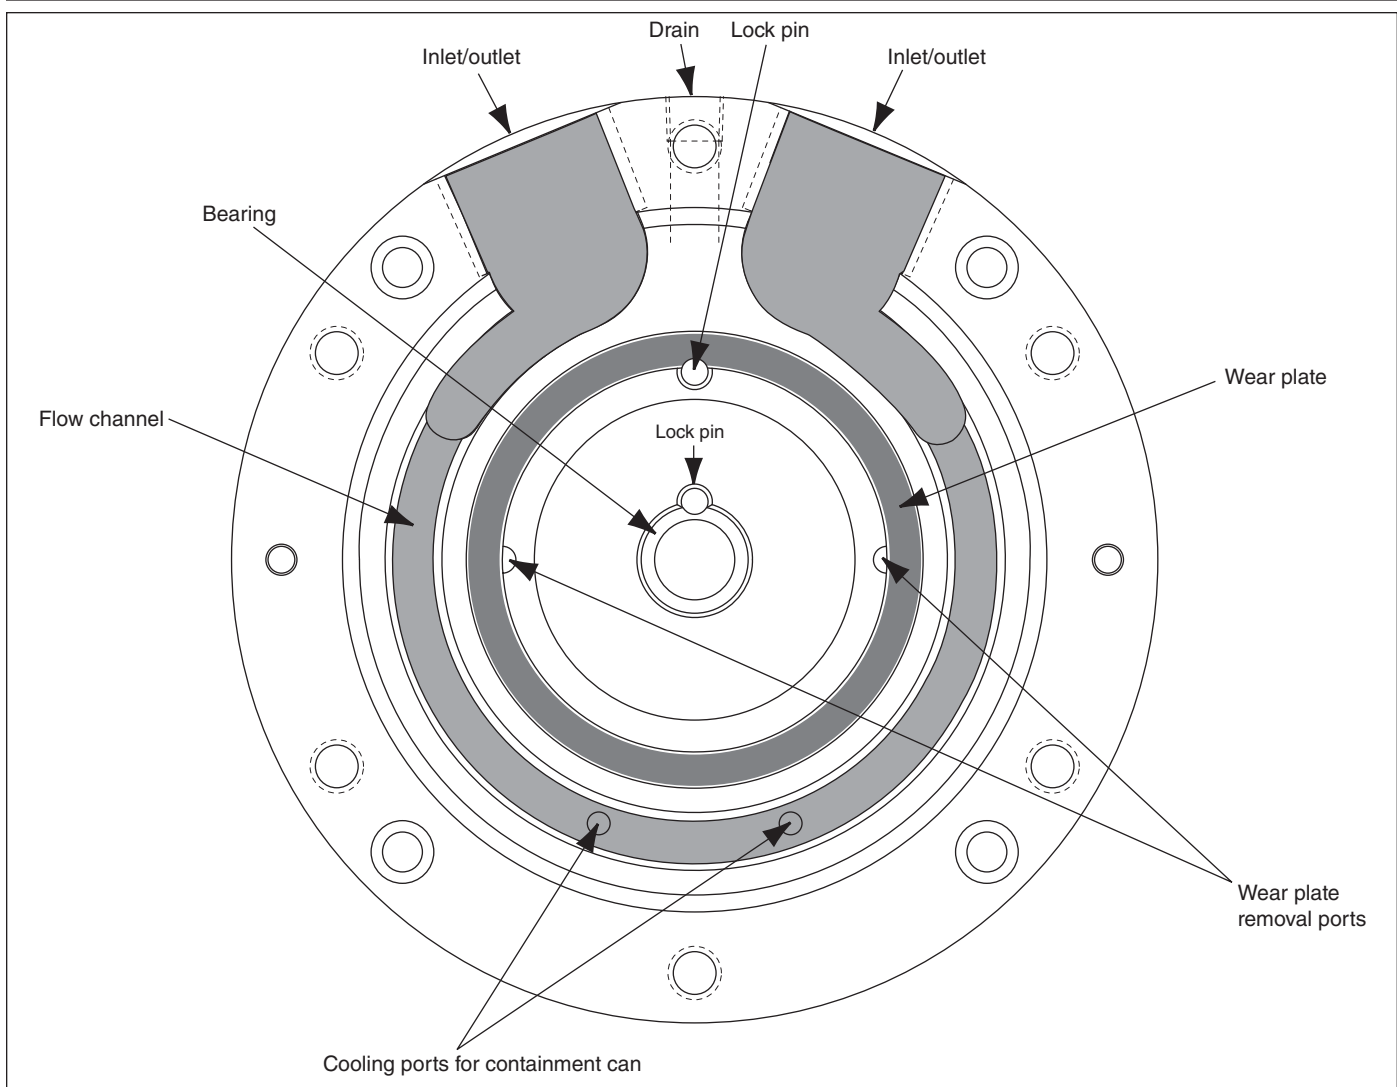

Figure 6
using a piece of wire or a drill bit of appropriate size (see figure 6 for location of cooling ports).
- Two small opposed holes are provided in the pump casing adjacent to the outer surface of each wear plate (refer to Figure 6). To remove the wear plate, insert a small pick with a hook or 90° angle in each hole and pry evenly between the two to facilitate wear plate removal without breakage.